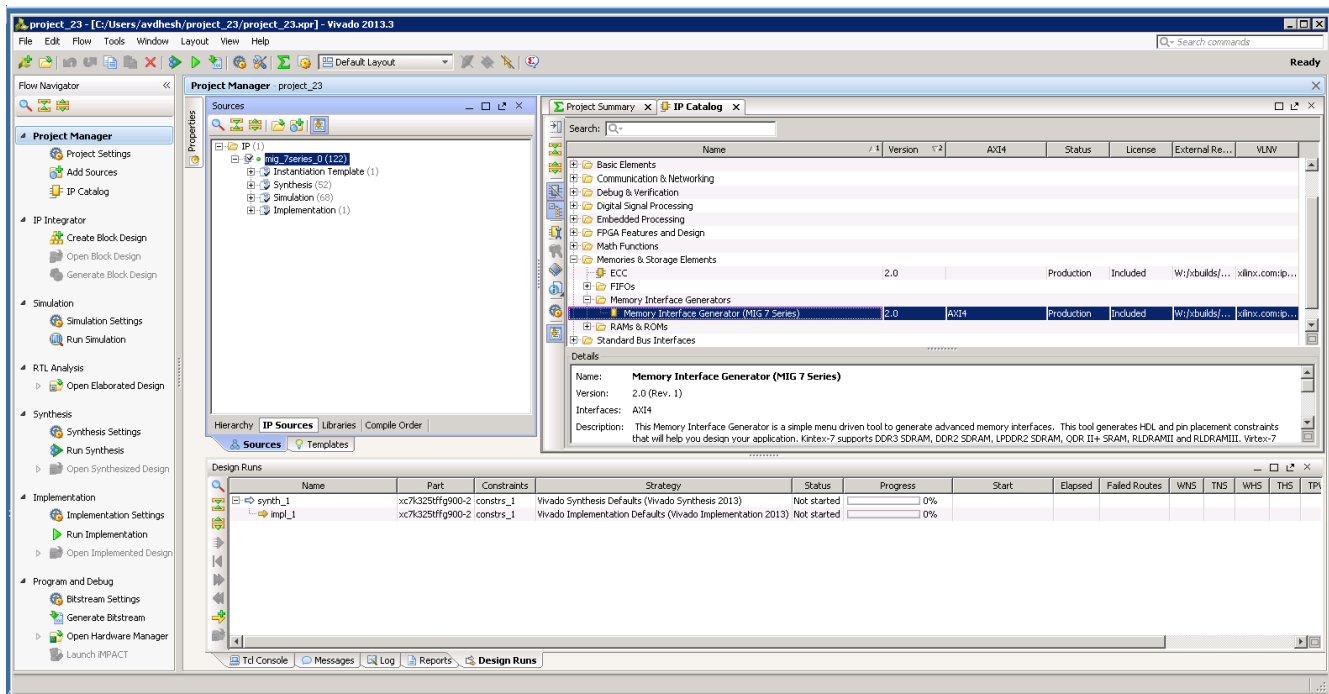

Figure 2-30: Vivado Tool Project Window (After IP Generation)
4. After generating the MIG design, the project window appears as shown in Figure 2-30.